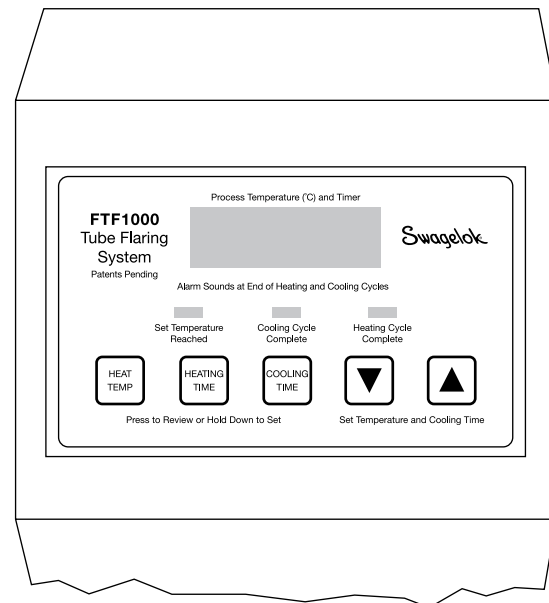

Fig. 3
6. Set the heat temperature, heating time, and cool down time by pressing and holding down the appropriate button on the control panel, "HEAT TEMP", "HEATING TIME" or "COOLING TIME". Use the arrow buttons to reach the desired setting according to the guidelines in Table 1 for the selected tubing. See Fig. 3.